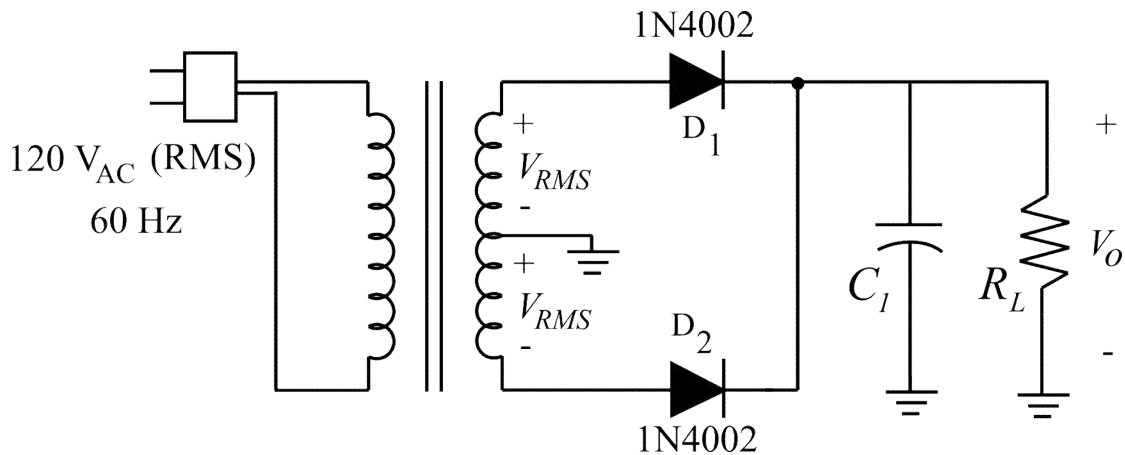

Figure 6: Schematic of the power supply to be designed.
2. The circuit shown in Figure 6 demonstrates the full-wave rectifier design for this part of the lab. The rectifier/filter circuit design will require approximately 16 V_{DC} @ 130 mA output capability, with a peak-to-peak voltage ripple less than 0.5 V. It is shown in the textbook that for a full-wave rectifier the ripple voltage is [1]
2. Construct the circuit of Figure 6. Have your lab partner(s) check over the circuit to make sure the connections are right. Energize the circuit. Using the oscilloscope, observe the output voltage. **Sketch the output waveform, and measure both the peak-to-peak ripple voltage and the dc average voltage.**